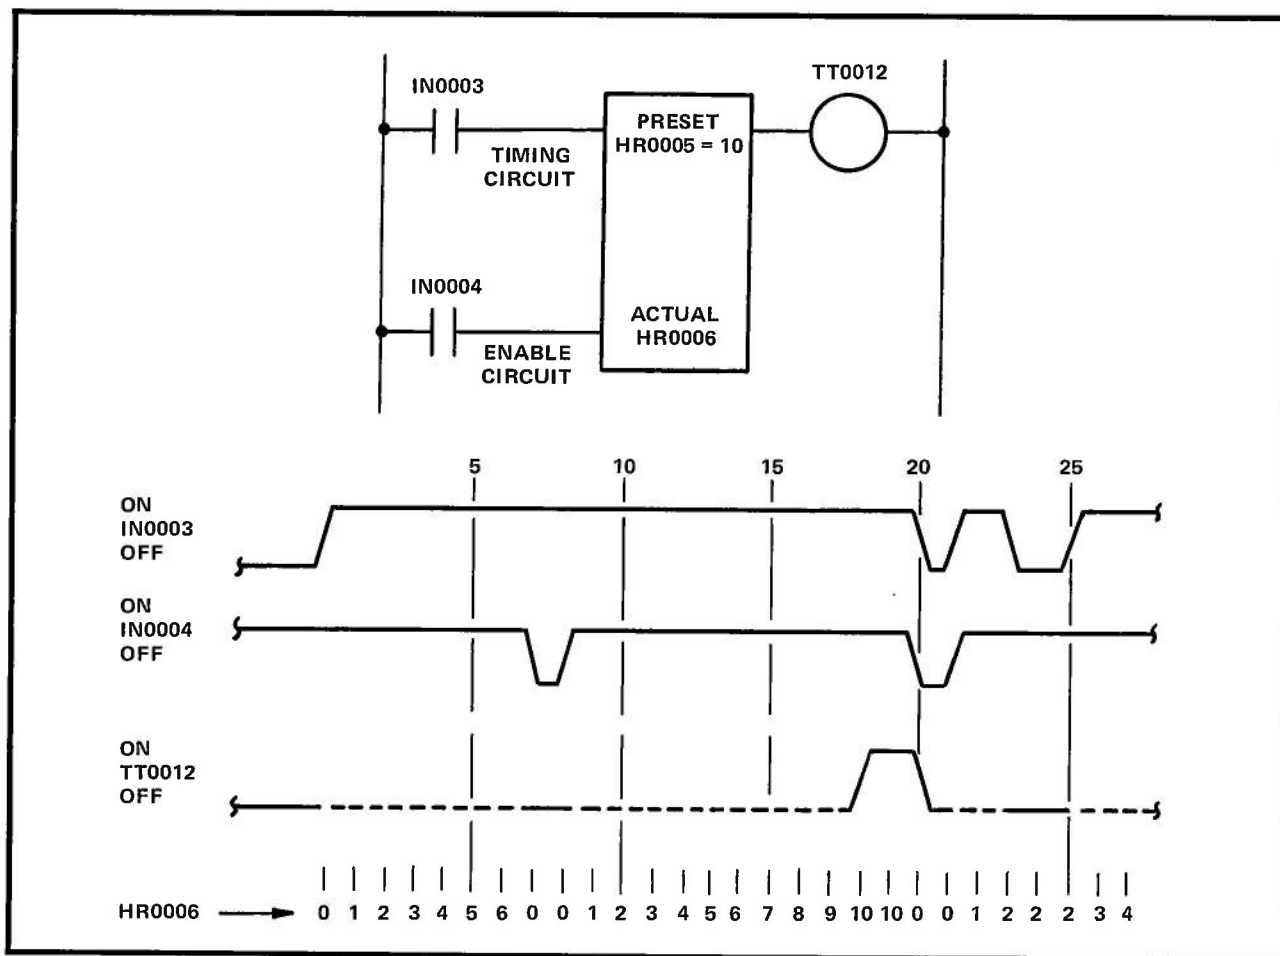

Figure 4. Motor Driven Timer
Figure 4 is the program for PC No. 2. Using this program, the data from PC No. 1 is reassembled and, using a Register-to-Table Move (RT), is stored for use by the PC. The two bytes, received as two separate words with a tag attached, are split back into untagged bytes while the tags are compared. If the tags are equal, then the Register-to-Table move is enabled and the received data is stored at the pointed location. The data transmitted will be faithfully reassembled in the receiving unit.
Figure 4 shows a timer circuit action under different conditions. The example in this figure is equivalent to a Motor Driven timer. At Time 0, the enable input (IN0004) and the timing input (IN0003) are closed. At Time 7, the enable input (IN0004) is opened, disabling the timer and setting the content of HR0006 to 0000. At Time 8,